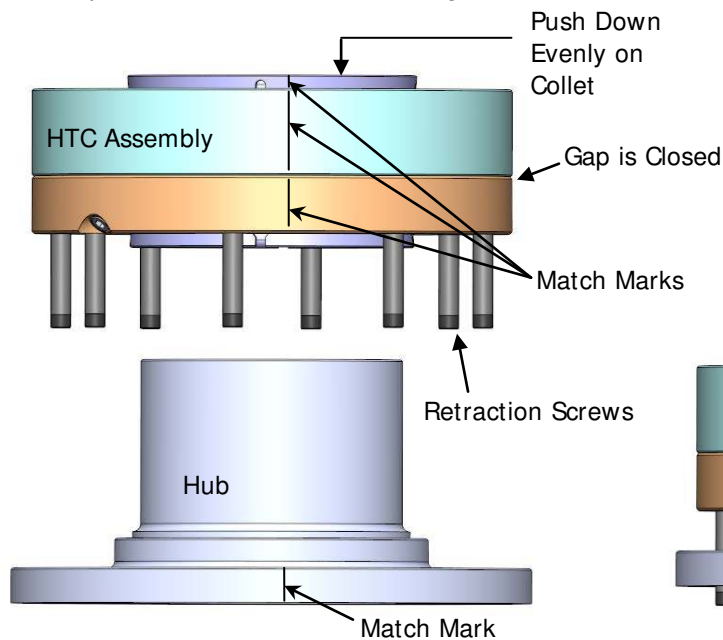
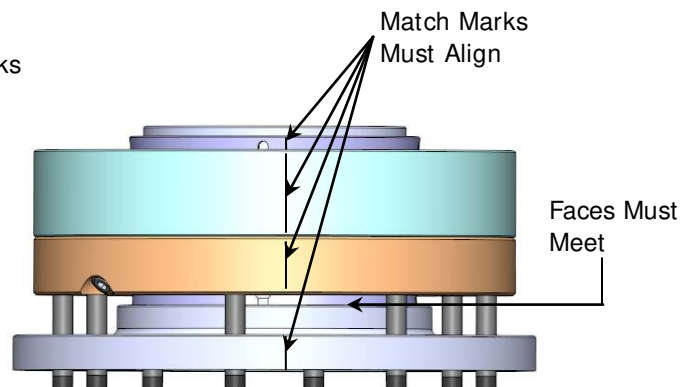

Figure 3a
Figure 3b
3.3.1 Remove the vent plugs (see Figure 1a). Tighten the retraction screws to 10-15 ft-lbs. Be sure the gap is closed (see Figure 3a).
3.3.2 Put the hub face down on a table. Align the match marks on the collet, Hub, and HTC to as shown in Figure 3a to ensure proper balance. Slide the HTC onto it until stop as shown in Figure 3b. Be sure to slide the HTC onto the hub evenly as there may be a slight interference fit. Always push on the COLLET, not on any other component of the HTC when sliding the HTC on hub.
3.3.4 Verify that the match marks are properly aligned as in Figure 3b.
3.3.6 Again verify the match marks are aligned as in Figure 3b.